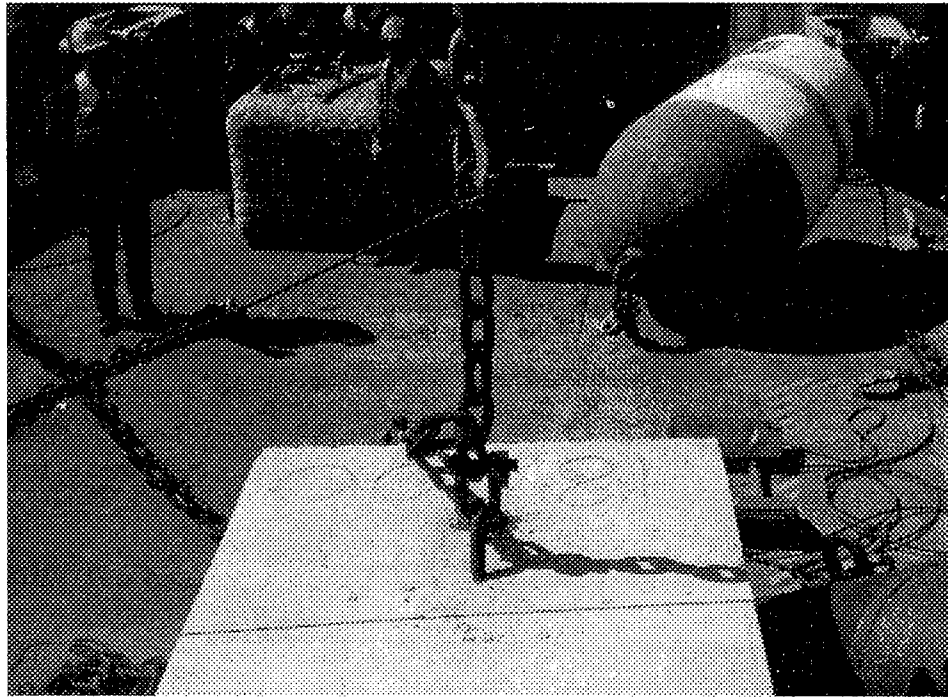

Fig. 8-5 Mooring shackled to sinker
- a. If necessary, move the sinker to the deployment buoy port and gripe it to the deck. Shackle a bight of chain, 3 to 5 links from the end nearest the chain stopper, to the sinker bail. (See **Figure 8-5.**) Ensure that the bow or clevis of the shackle bears against the sinker bail and that the shackle pin passes through the chain link. **Do not shackle the bitter end of the chain into the sinker bail. Always leave a chain pigtail of 3 to 5 links to facilitate removing the hook once the sinker is hung in the chain stopper.**